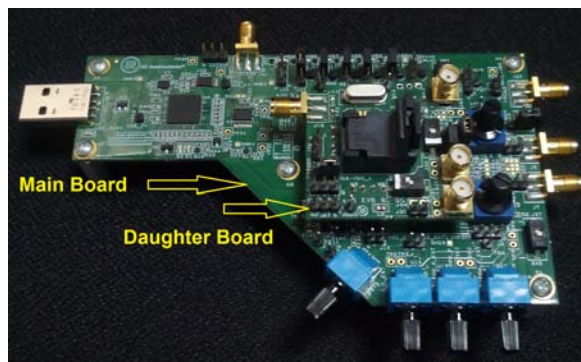

Figure 2. Top View of Main Board with DFN8 Daughter Board
- d. Place NB3x60113G in the DUT socket U2. For pin 1 alignment refer to Figure 2